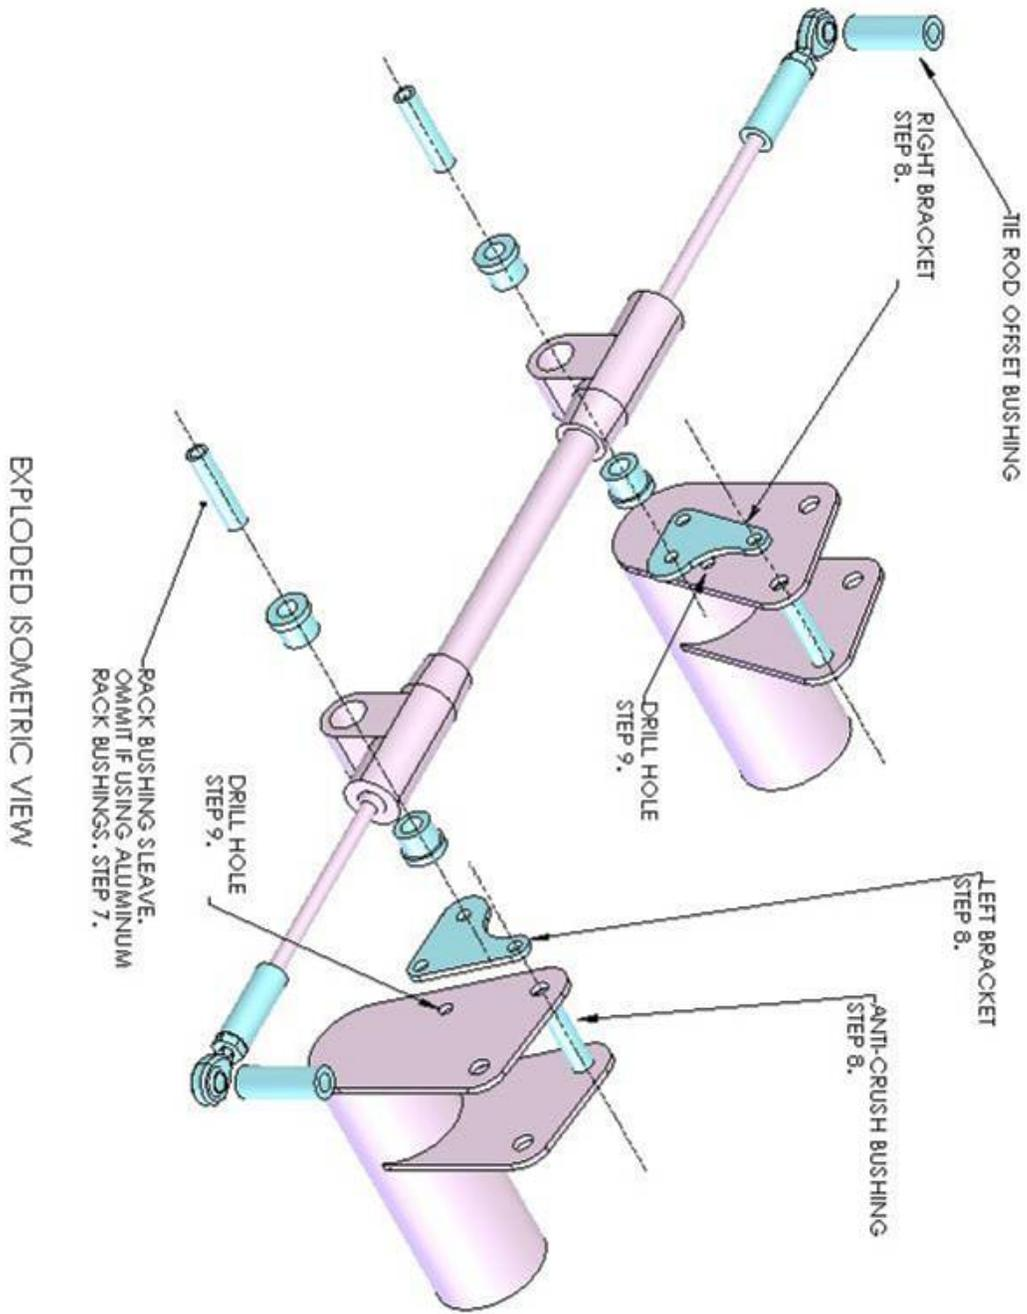

Figure 2.
mounted. Once the rack is positioned, tighten the mounting bolts tight. See figure 2.
- 4) The remaining two holes in the new brackets now need to be marked and drilled. This can be done with either a 1/2" locating punch or by placing the 1/2" drill in the hole and spinning it enough with the drill motor to make a mark. Once this is done, remove the rack and use the 1/8" drill to drill a pilot hole. Then use the 1/2" drill to finish the hole. Re-mount the rack using all of the supplied hardware. Torque all fasteners to 40 lb. ft. See figure 2.